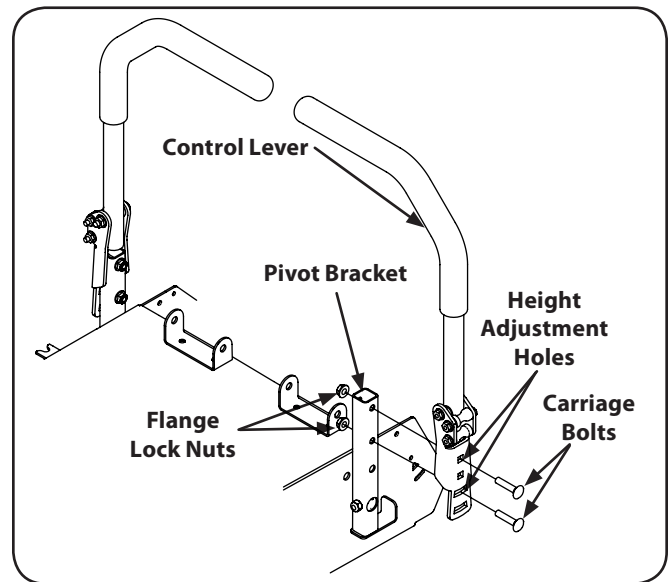

Figure 6-5
- Remove the nuts from the control lever mounting bolts. See Figure 6-5.